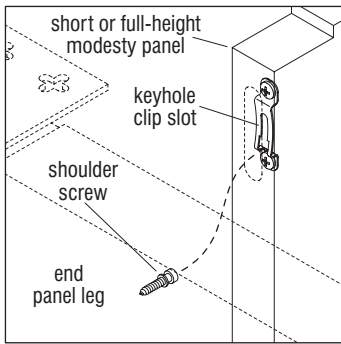

**Figure 29**
1. Orient the stringer as illustrated, so the overhang of the installed mounting brackets face the back, "non-user side" of the table (Figure 29).
2. Take the end of the stringer and align the larger opening of the keyhole clip slot with the corresponding shoulder screw installed to the middle panel leg, closer to the "user side" (Figure 29, Detail I3). Press the stringer end against the side of the middle panel leg, slightly elevated so the head of the shoulder screw rests in the larger opening of the keyhole slot (Detail J3). Next, squarely press the stringer down to engage the screw into the smaller end of the keyhole slot (Detail K3).